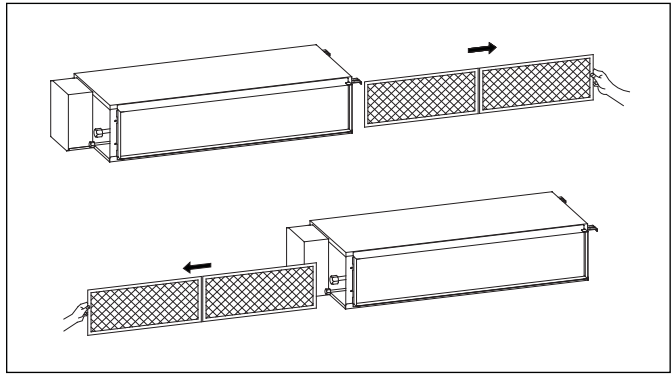

Figure 8
2. Slide out the filter to the right or left according to the arrow shown in Figure 8.